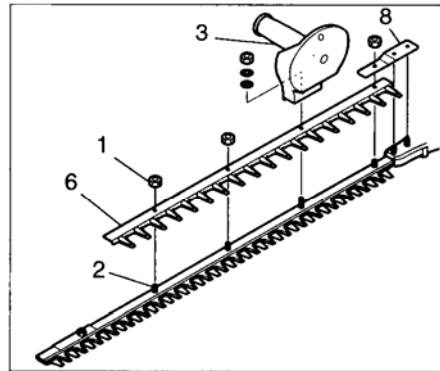

Fig. 1-2
2. Set the gathering plate on the guide bar, then finger tighten the three washers and nuts. *Use one each (5) of the two washers, which have been provided, under the gathering plate or on the two blade-fixing bolts from the cutting-blade end to install the gathering plate on THT-2540. (If so equipped)
4. Before securing the finger-tighten nuts, screw the blade fixing bolts (2) to be seated, then loosen the bolts approx. 1/2 turn.
Handle B (3) and Blunt guard (6) for USA/CANADA (Fig. 1-2,3)
1. Remove the four nuts (1) (in case of double sided blade, three nuts (1)) from power head side.